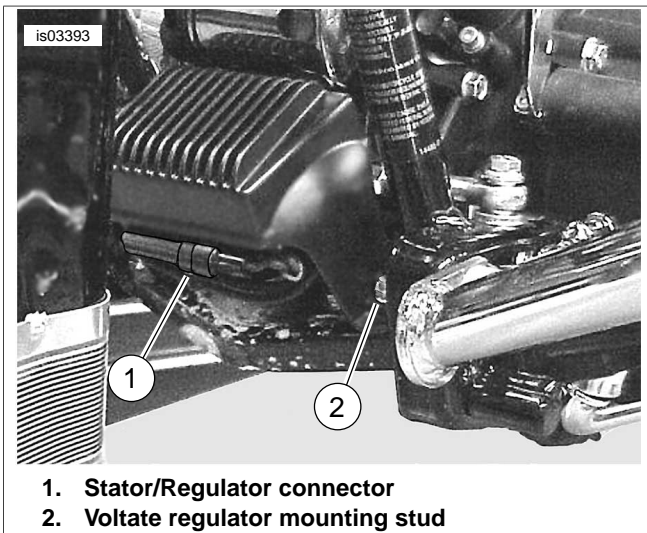
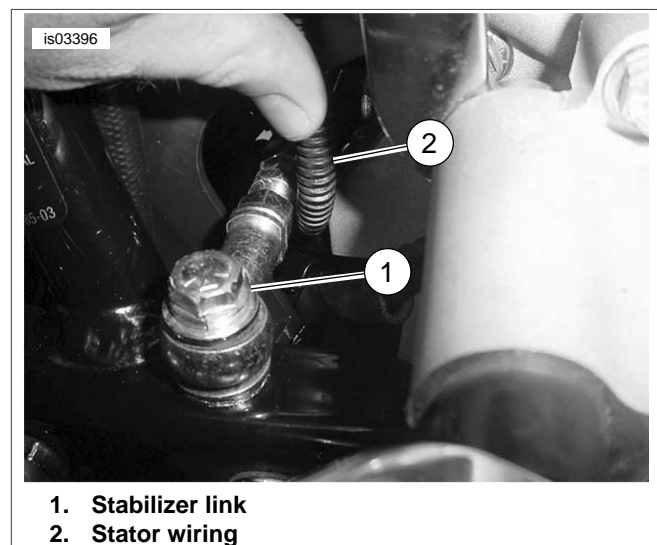
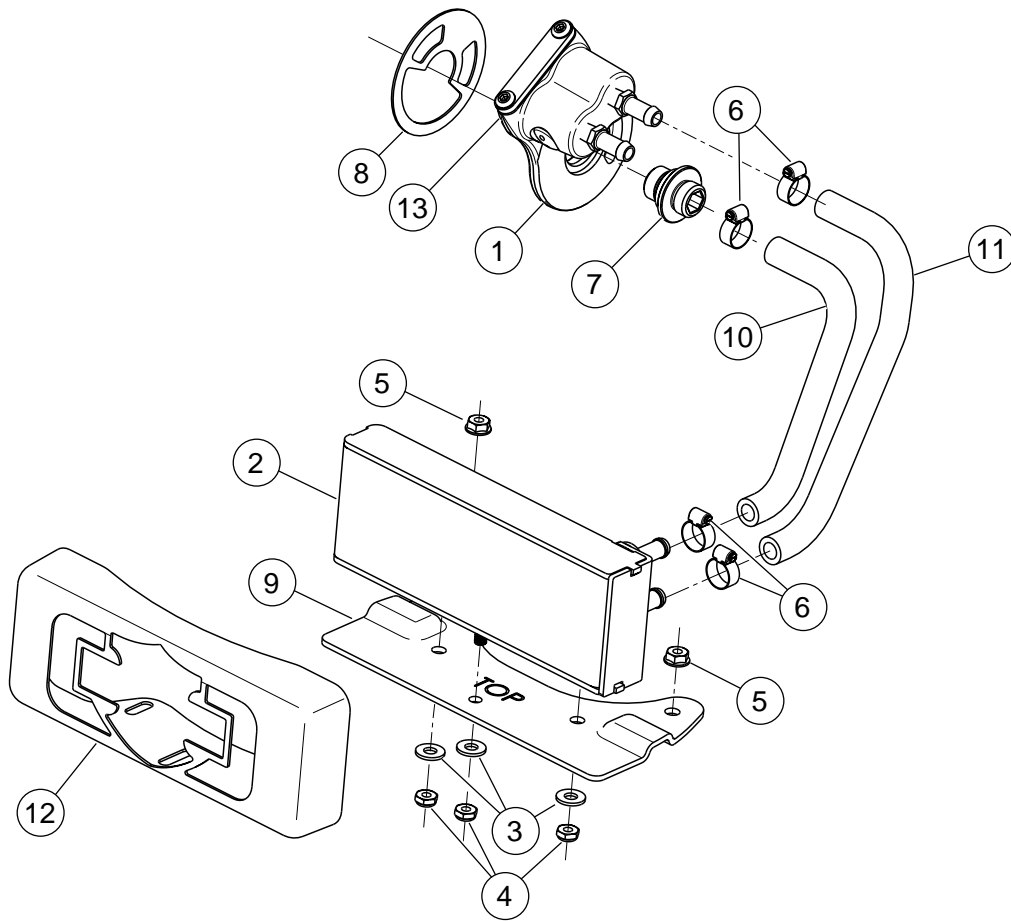

Figure 3. Remove Stator/Regulator Connector
Figure 4. Stator Wiring and P-Clip
Figure 6. Service Parts for Touring Oil Cooler Kit with Chrome Oil Cooler Cover
See Figure 6 and Table 1.
5. See Figure 3. Remove and disconnect the stator/regulator connector (1) from the bracket on the bottom of the voltage regulator.
6. Remove voltage regulator mounting nuts, washers, and star washers from stud (2) and save for later installation.
9. See Figure 4. Do not remove P-clip from the stud. Rotate the P-clip together with the stator wiring (2) on left side of vehicle 180 degrees so the stator wire will be re-routed to inside of regulator's left leg.
10. Verify that the stator wiring is routed underneath the engine stabilizer link (1). Leave the end of the stator wiring out near the left frame downtube. Be sure the P-clip on the right hand side is in place, it will not be removed.
11. See Figure 6. Obtain oil cooler (2), oil cooler mounting bracket (9), chrome oil cooler cover (12), three washers (3) and three nuts (4). Install the oil cooler cover over the oil cooler studs, then install the mounting bracket over the
15. See Figure 6. Obtain the long hose (11), short hose (10) and four clamps (6) from kit. Slide two clamps onto each hose and follow the markings on hoses to connect onto the oil cooler and oil cooler adapter.
16. Fasten hoses to oil filter adapter and oil cooler with worm drive clamps (6). Tighten clamps to 8.0 **in-lbs** (0.9 Nm).